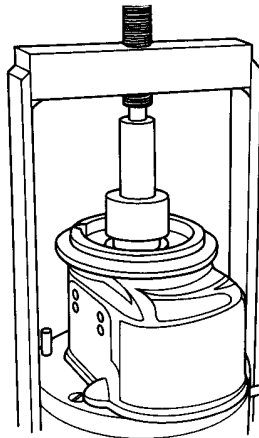

Figure 7.10
- B. Place magneto frame (8), flange side up, on T125 assembly fixture . (See Figure 7.10.)